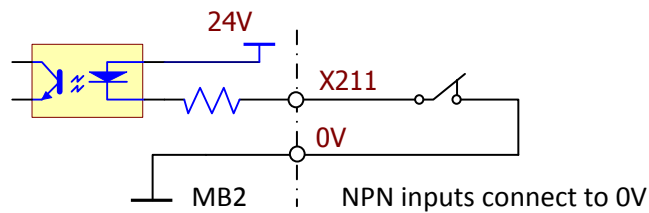

**Figure 7, Input terminals**
**Figure 7** shows 22 input terminals. There are 17 points of NPN type which are X110-X115, X203-X215 and 5 points of PNP type which are X310-X315.